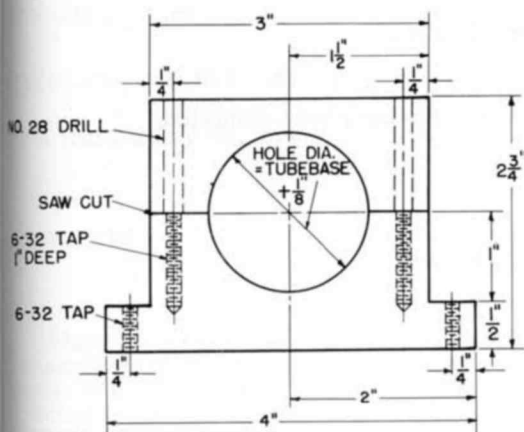

FIG. 5. MOUNTING BRACKET FOR C-R TUBE BASE MADE FROM 1/2-INCH THICK PHENOLIC INSULATING BOARD, OR SIMILAR MATERIAL.
11. Since the side view photo, Fig. 3, and layout drawings Fig. 5 and Fig. 6 in the original issue are pinched in the binding of the bound volume, these illustrations are repeated here.